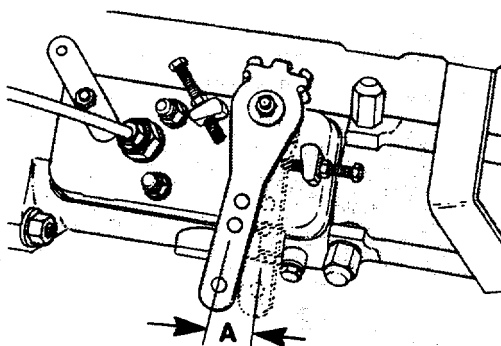

FIGURE 3-9. High Idle Adjustment.
- (3) Adjust the high idle adjusting screw to allow for the excessive travel needed to maintain the maximum power required.(FIGURE 3-9)